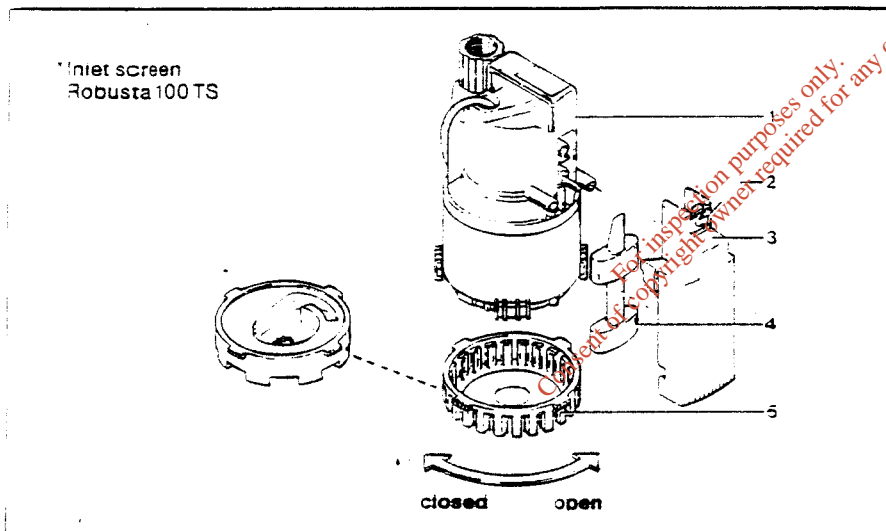

Fig. 5 Automatic level control, dismantled.
*NOTE The Robusta 100 TS varies from the Robusta 200 TS only in the hydraulic section and discharge data. See also Fig. 5.